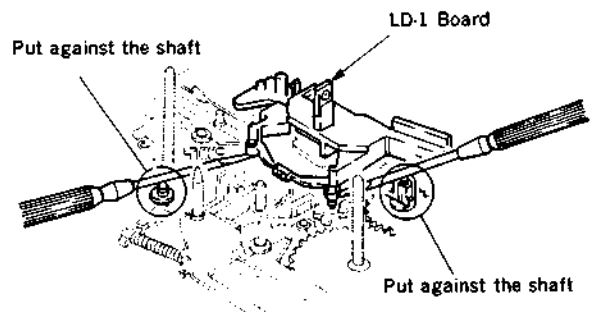

Fig. 1
- (1) Remove the Cassette-up Compartment Assembly referring to Section 2-3.
- (2) Disconnect the connector (CN301) on the RS-31 Board.
- (3) Remove the T Reel Table Assembly referring to Section 4-14.
- (4) Remove the stopper washer and remove the Drive Gear B Assembly.
- (5) Remove the LD-1 Board. (fig. 1)
- (6) Remove the Lock Slider M Assembly referring to Removal Steps (3) to (5) of Section 4-20.
- (7) Remove the tension spring and remove the B Release Arm Assembly.
- (8) Check that the M-mode is put into **EJECT** mode.
- (9) Remove the stopper washer and remove the Mode Output Gear.
- (10) Release the two claws of the Control Motor Cover and remove the Push Switch.
- (11) Disconnect the connector (6P) on the M-switch Assembly.
- (12) Remove the two fixing screws and remove the Control Motor Cover L.
- (13) Remove the fixing screw and while lifting up the M-switch Assembly, push the T,S Release Arm in the direction of the arrow A. Then push the T Main Brake Assembly in the direction of the arrow B and remove the M-switch Assembly.